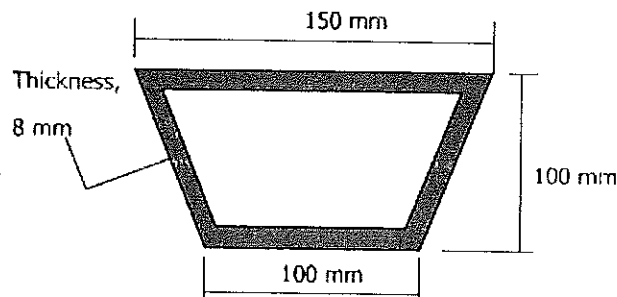

Figure Q3-a
- Q3 (a) A steel tube with the cross section shown in Figure Q3-a carries a torque  $T$ . The tube is 1.5 m long and has a constant wall thickness of 8 mm.